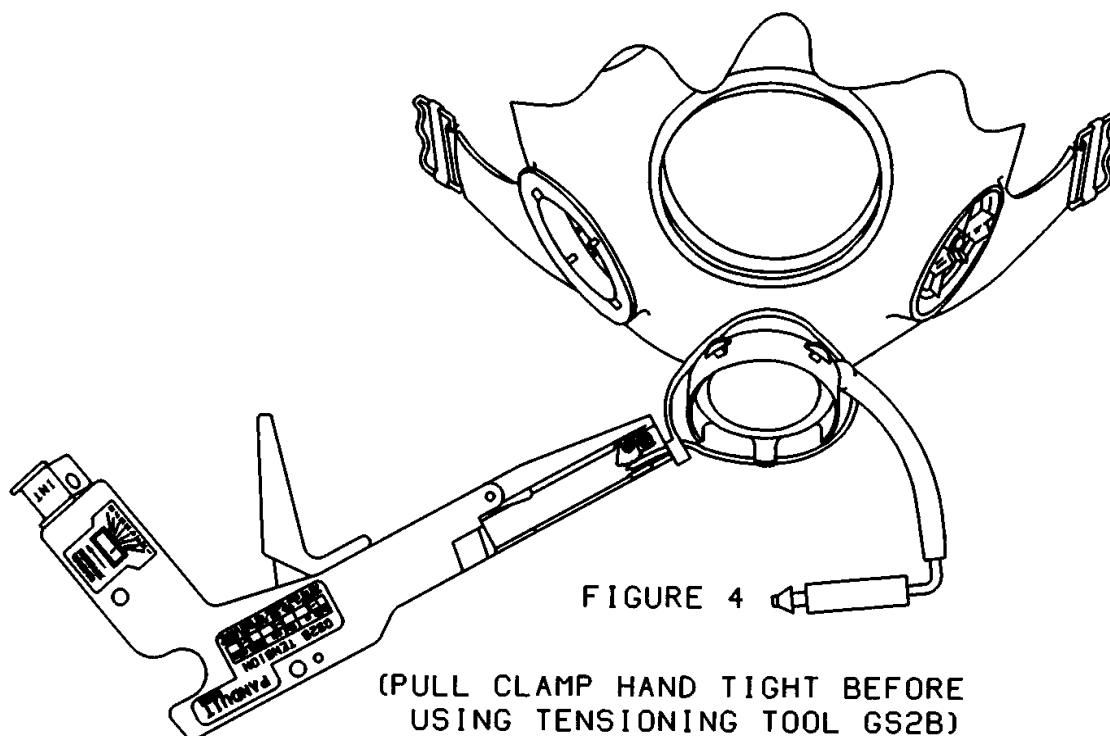

FIGURE 4
7. PLACE THE POINTED END OF THE RETAINING CLAMP INTO THE END OF THE GS2B TENSIONING TOOL. AS SHOWN IN FIGURE 4.